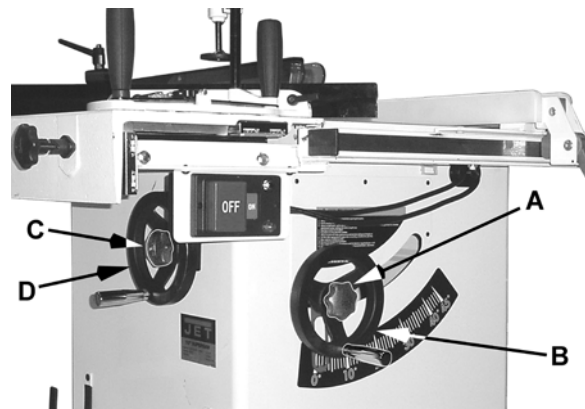

Figure 39
1. To raise or lower saw blade, loosen the lock knob (A, Fig. 39) and turn the handwheel (B, Fig. 39) on the saw front until desired height is reached. Tighten lock knob. The blade should be adjusted 1/8" to 1/4" above the top surface of the material being cut, about 3-5 blade tips.